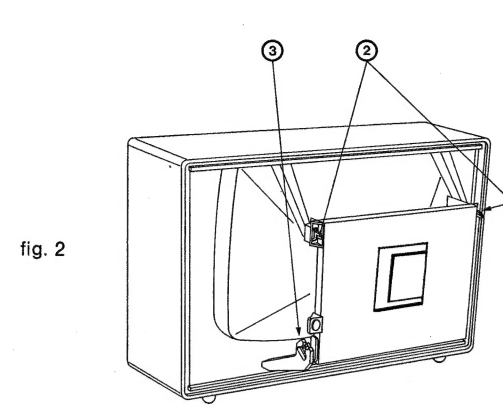

fig. 2
To open the chassis press the right and the left levers (2) together, in order to release the catches (fig. 2).